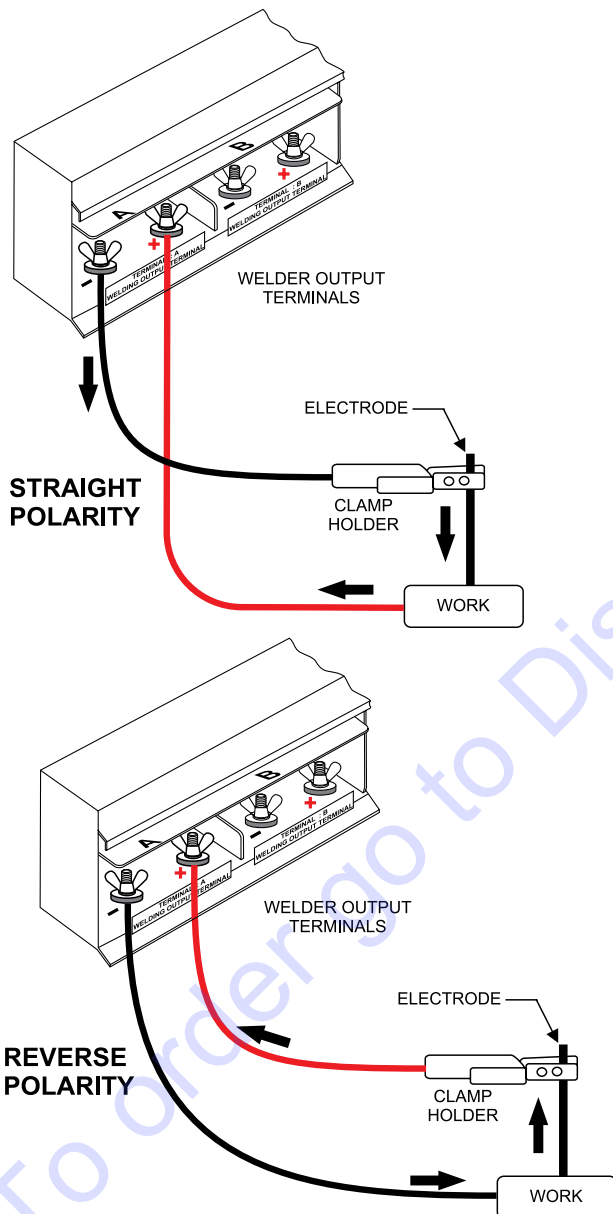
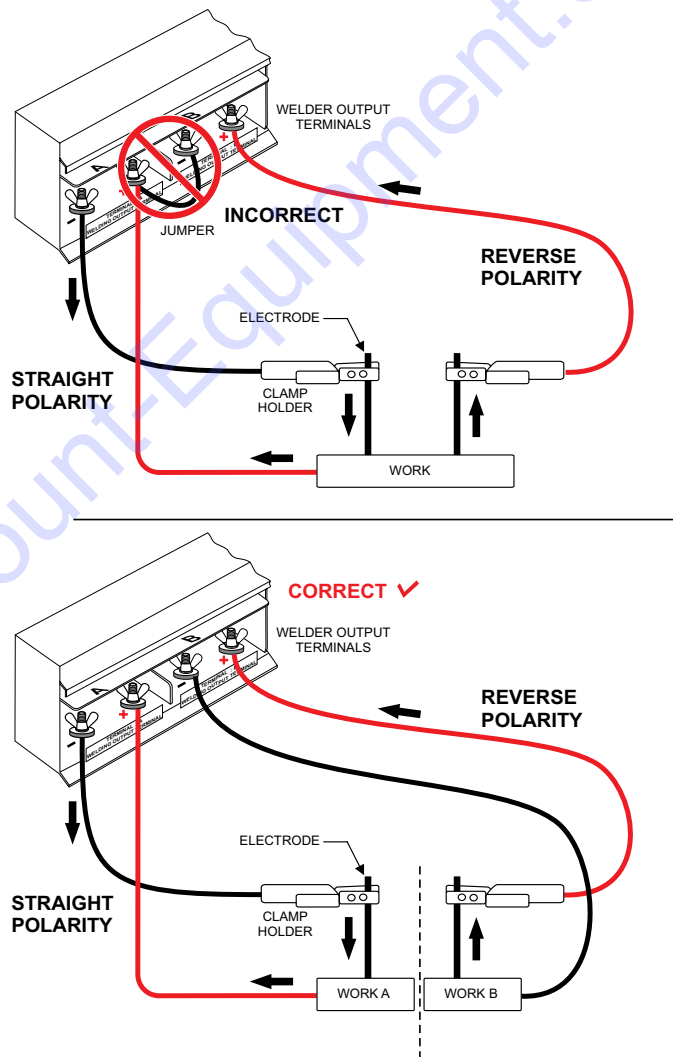

Figure 16. Welding Cable Connections (Electrode Type Correct)
Figure 17. Welding Cable Connections (Electrode Type Incorrect)
When operating the welder in dual mode, **NEVER** connect the positive and negative terminals (Figure 17) from the **A** and **B** sides together.
5. Attach the clamp holder to the electrode as shown in Figure 16 and Figure 17.